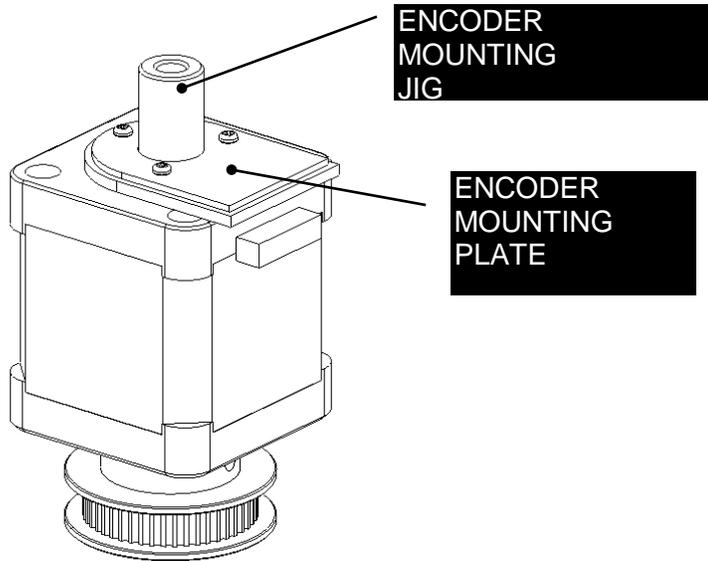

Figure 9-16: Encoder Mounting Plate
3. Remove the Encoder Mounting Plate (Figure 9-16). The jig (DSXFIX015) shown in the figure is not required for removal, but is required for installation of a new unit.